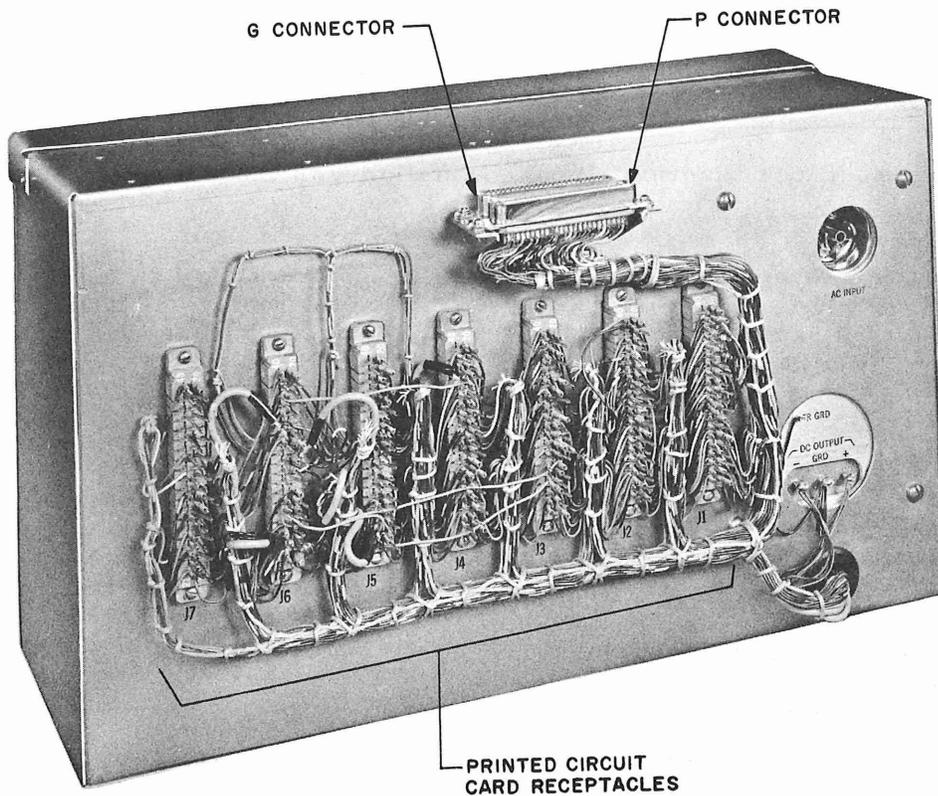

Fig. 3 - Data Set 105A, Rear View
2.07 Fig. 3 is a rear view of data set 105A. It shows the location of: